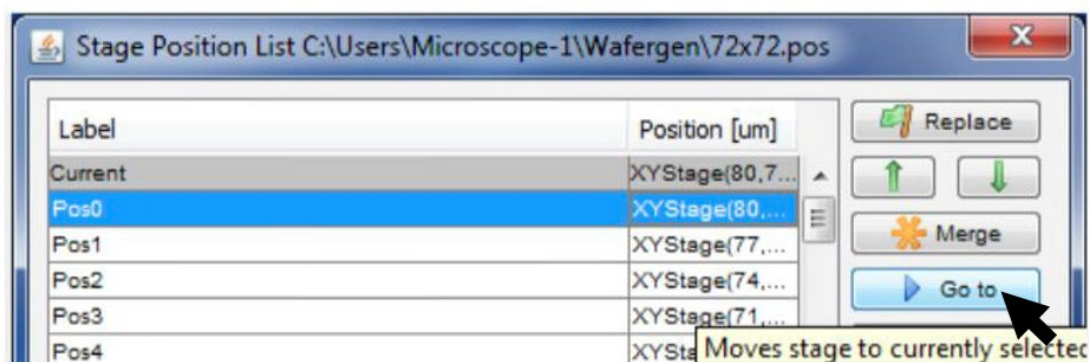

Figure 18. Moving the motorized stage to Position 0.
11. Select the row “Pos0” in the *Stage Position List* window (Figure 18, below), and then click the [Go to] button.